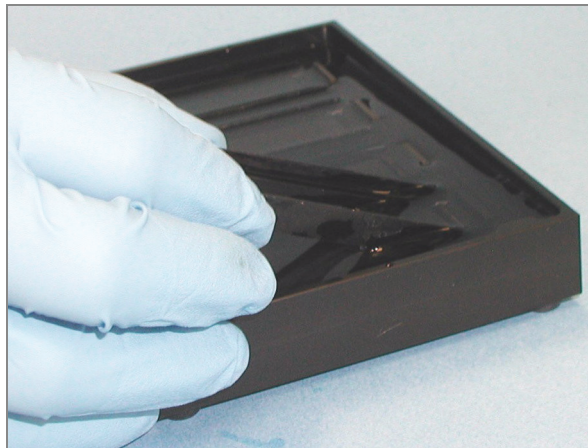

Figure 163 Placing Black Frames into Multi-Sample BeadChip Alignment Fixture
2. For each BeadChip to be processed, place a black frame into the Multi-Sample BeadChip Alignment Fixture (Figure 163) pre-filled with PB1 (see *Preparation* on page 167).